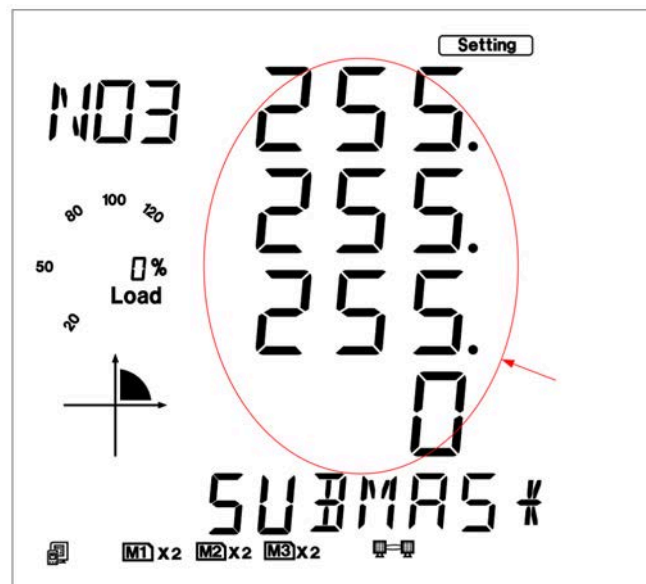

Fig 5-31
5. Set Subnet Mask in the third setting page, such as 255.255.255.0. Press "V/A" key to go to the setting page. Users may set the parameters in the area pointed out in Fig 5-31. The cursor starts at the first digit. After setting the Subnet Mask, press the "V/A" key to accept. Press the "P" key again to go to the fourth setting page for Gateway.